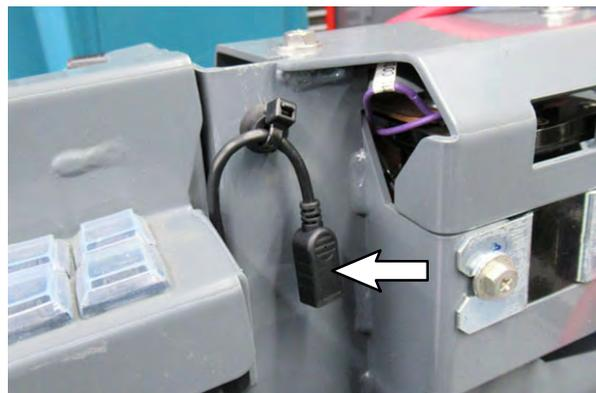

FIG. 51
50. Connect a USB cable to the service device and the USB harness (18). (Fig. 51)